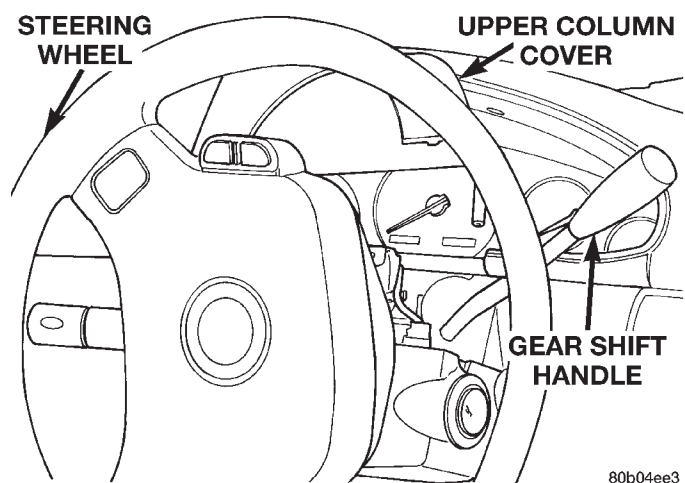

Fig. 14 Upper Column Removal
(3) Tilt column down and remove upper half of column cover (Fig. 14).